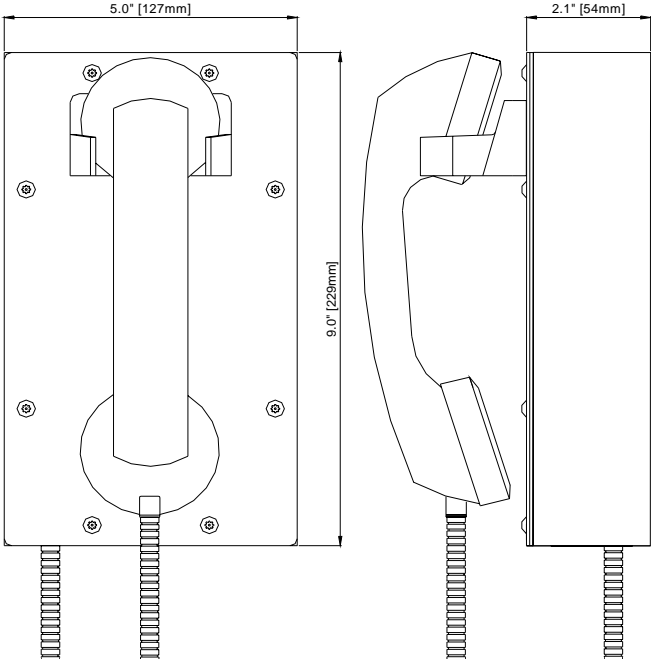

Figure 2 - Dimensions
- Remove the eight (8) cover screws from the front of the unit and carefully remove the front cover assembly. NOTE that the handset and all electronics are attached to the front plate. The front cover may be separated from the back box by disconnecting the harness plug.
**See:** Figure 2 - Dimensions